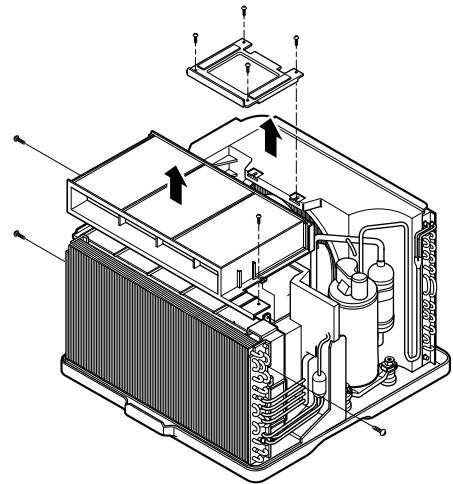

Figure 4
7. Remove the air guide upper. (See figure 4)